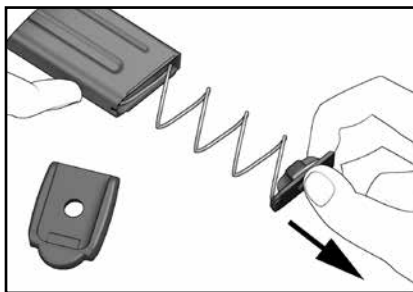

Figure 20
4. Gradually allow the locking plate and magazine spring to expand out of the magazine housing (see Figure 20).